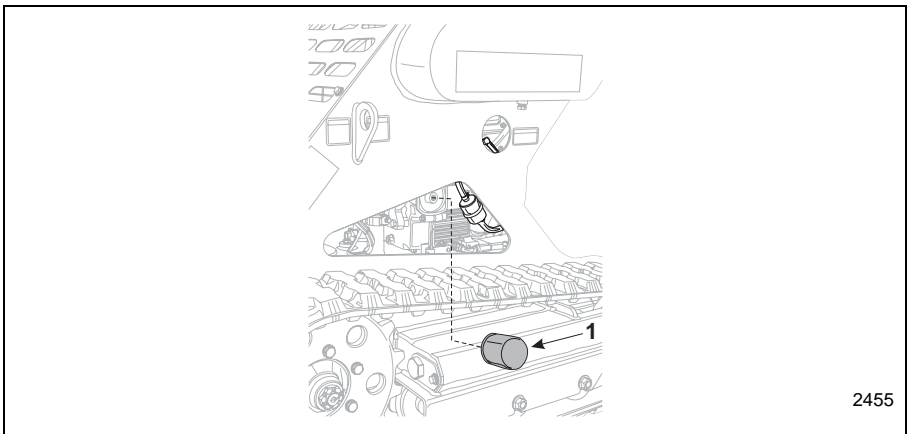

Figure 4-8 Engine Oil Filter
2. Change engine oil filter, which is located on the left side of the engine - see engine manual and (Item 1, Figure 4-8).